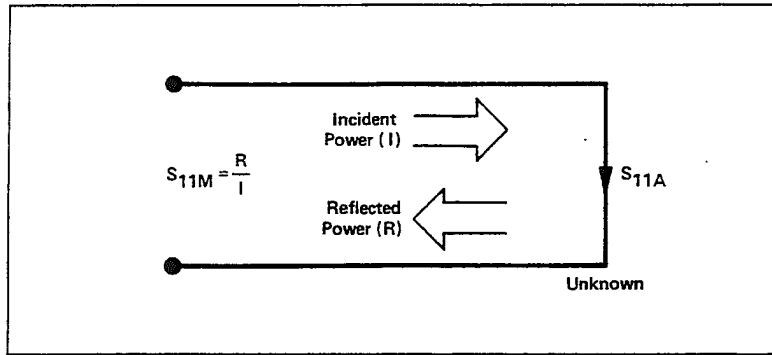

Figure 7-50. Reflection Coefficient
**Measuring reflection coefficient.** The reflection coefficient is measured by first separating the incident signal (I) from the reflected signal (R), then taking the ratio of the two values (Figure 7-50). Ideally, (R) consists only of the signal reflected by the test device (S11A).